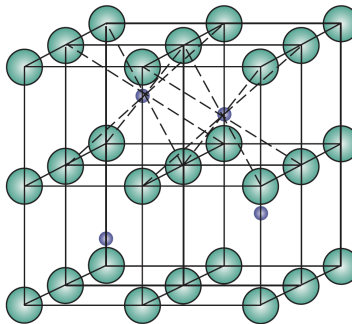

Figure 3: The crystal structure of K_2O .
- b) The crystal structure/coordination geometry associated with a coordination number of 8 is the cubic structure, also known as the CsCl cesium chloride structure. In this structure, anions are at each corner of the cube, with a single cation at the cube centre. Note that one unit cell consists of eight cubes in total. As K_2O contains twice as many cations as anions, only half of the eight cubes forming the unit cell will contain a potassium cation at their centre. A schematic for this structure is shown in Figure 3, where green spheres represent oxygen anions and blue spheres represent potassium cations.